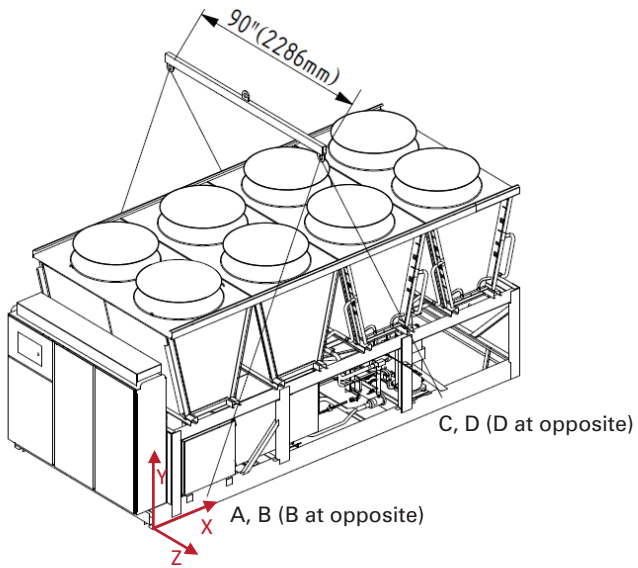
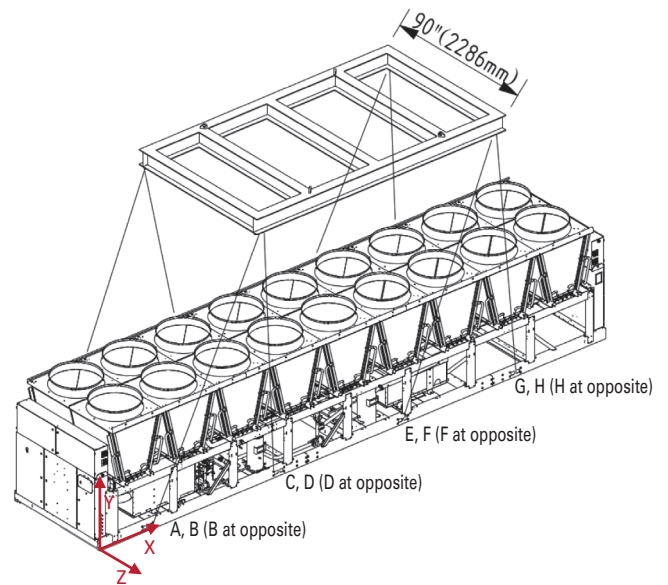
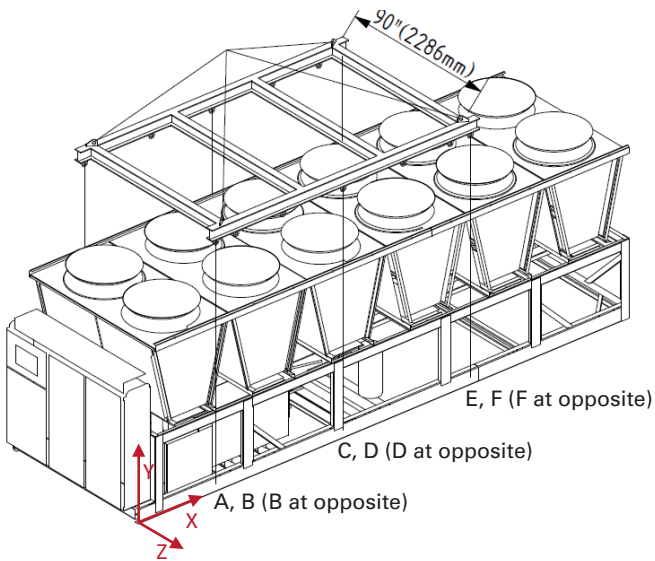

Figure 16. Unit lifting schematic (4 points)
Figure 18. Unit lifting schematic (8 points)
Figure 17. Unit lifting schematic (6 points)
2. Lifting chains/cables will not be the same length. Adjust to keep unit level while lifting. follow the Figure 16, Figure 17, Figure 18 and Table 8.